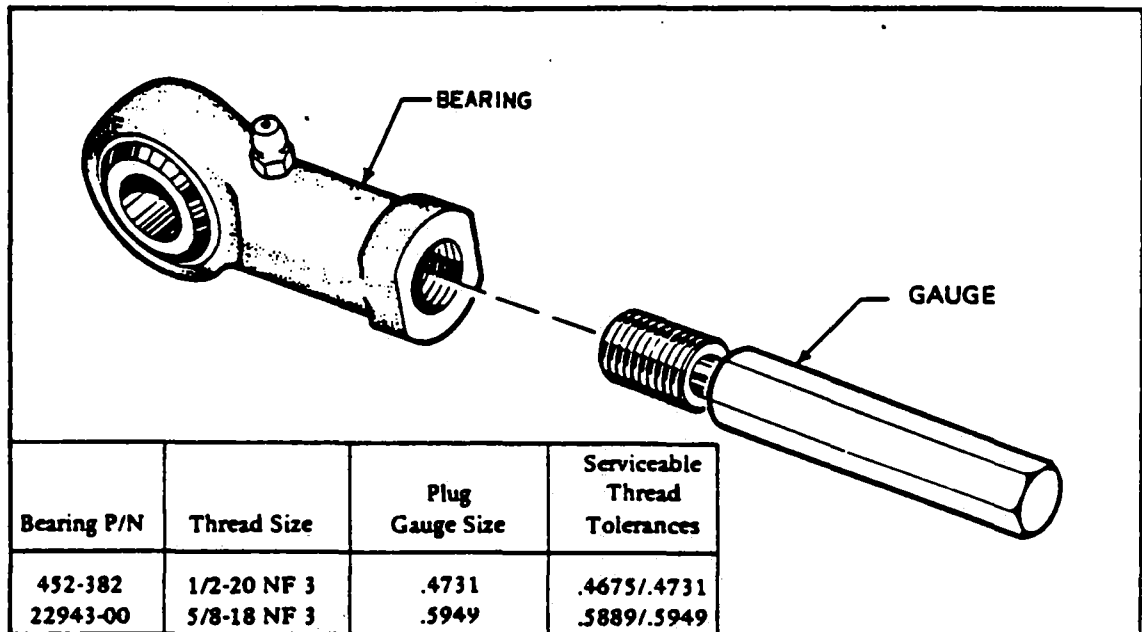

Figure 7-8b. Main Gear Side Brace Bearing Tolerance
1. This check requires the use of a NO-GO thread plug gauge (refer to table included in Figure 7-8b for the specific size gauge to use. This gauge can be purchased from any good tool supplier.
2. If the NO-GO gauge can be screwed into the bearing, this would indicate that the bearing is worn larger than the tolerances given in the table with Figure 7-8b, and must be replaced.